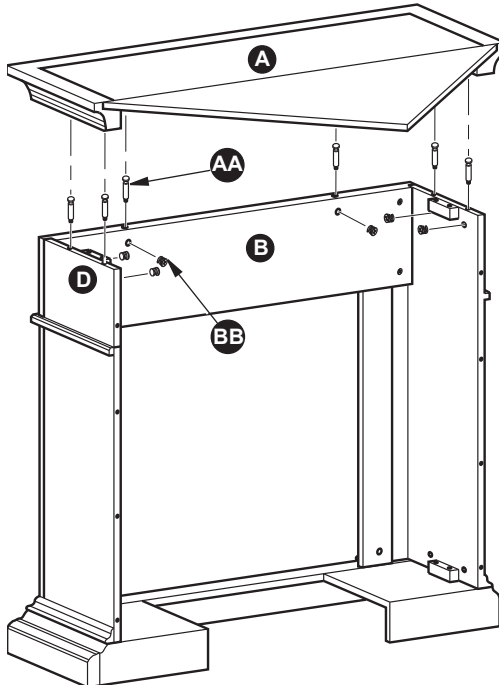

Figure 36
9. Insert 6) Cam Locks (BB) into Panel (B), the Left Upper Panel (C) and the Right Upper Panel (D). Screw 6) Cam Dowels (AA) into Top (A). Attach Top (A) into assembled frame by tightening the Cam Locks (BB) as shown in Figure 36.